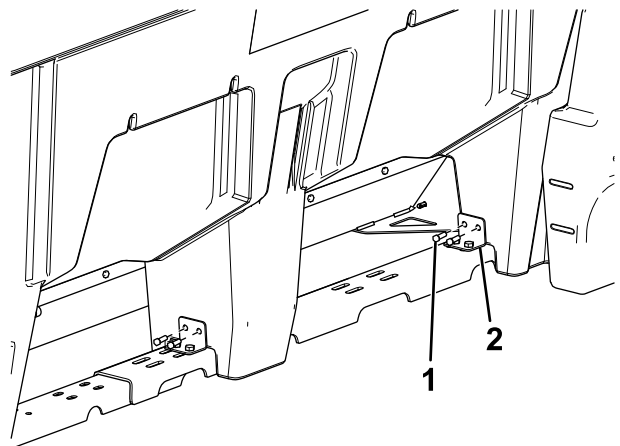

Figure 7
15. Slide the L-brackets against the spreader legs and loosely secure them to the spreader using 2 lag bolts (5/16 inch) on each bracket (Figure 7).